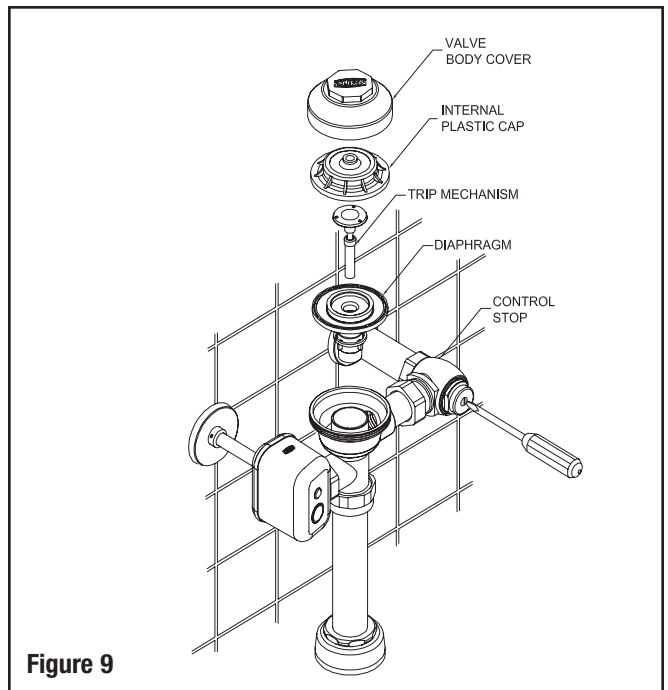

Figure 9
STEP 9 – Flush Out Supply Line (Figure 9)